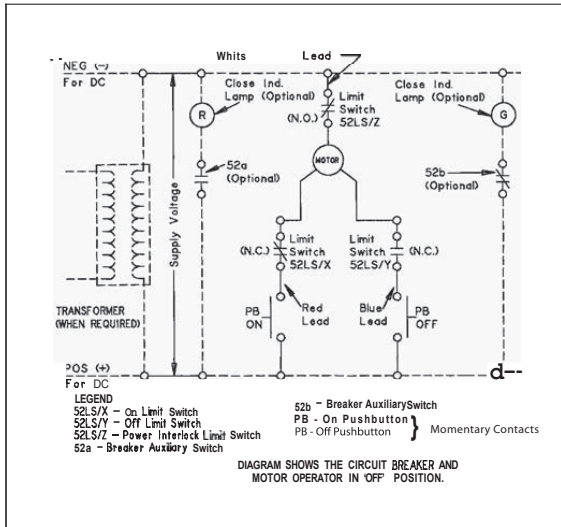

Fig. 2-2. Motor Operator Wiring Diagram
- 2-8. To connect the power and control wiring, refer to Fig. 2-2, page 3.
To check the electrical operation use the remote momentary "ON" and "OFF" control devices, and perform the following steps: (refer to Fig. 2-2)